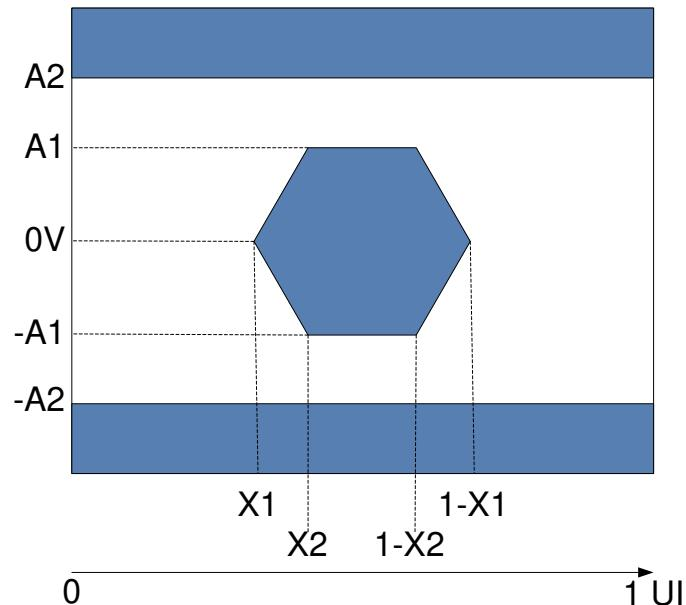

Figure 5-12. HSSI Eye Characteristics
- (1) All power supply connections are required to operate the DMD: V_{DD}, V_{DDA}, V_{OFFSET}, V_{BIAS}, and V_{RESET}. All V_{SS} connections are required to operate the DMD.
- (2) All voltage values are with respect to the ground pins (V_{SS}).
- (3) To prevent excess current, the supply voltage delta | V_{DDA} – V_{DD} | must be less than specified limit.
- (4) To prevent excess current, the supply voltage delta | V_{BIAS} – V_{OFFSET} | must be less than specified limit.
- (5) Supply power dissipation based on three global resets in 200μs.
- (6) LVC MOS input specifications are for pin DMD_DEN_ARSTZ.
- (7) LVC MOS output specification is for pins LS_RDATA_A and LS_RDATA_B.
- (8) Refer to Figure 5-12 (1e-12 BER).
(9) Defined in the *Recommended Operating Conditions*